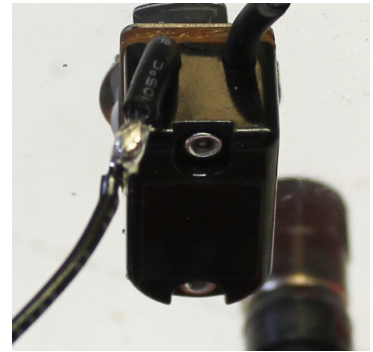

Figure 36
36. Now you will solder wires to the remaining on/off switch (on left side as seen from front). Find the black wire soldered to hole a17. Strip the other end and solder to the switch as seen in Figure 36.